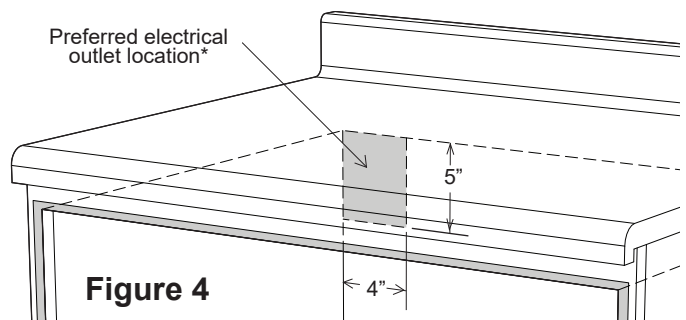

Figure 4
- Dimensions that are shown in Figure 1 must be used for Standard Installation. Given dimensions provide minimum clearance. Locate electrical outlet in the shaded area in the upper left-hand corner of the cutout. See Figure 4.